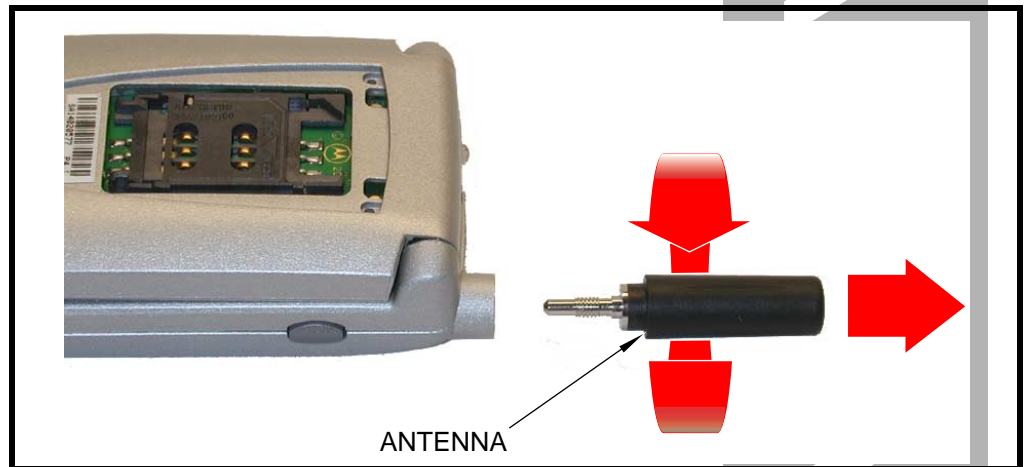

Figure 8. Removing the antenna
2. By hand, rotate the antenna counterclockwise until loose. See Figure 8.